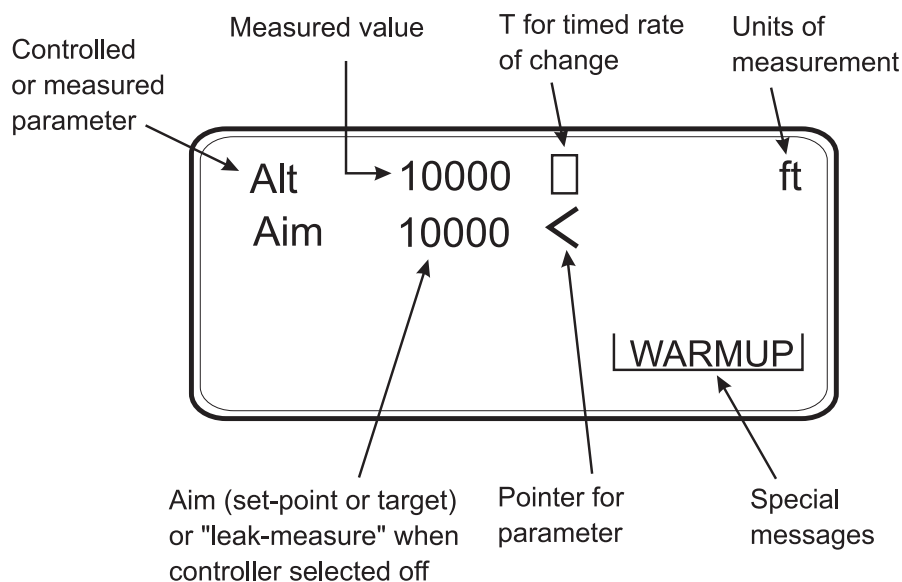
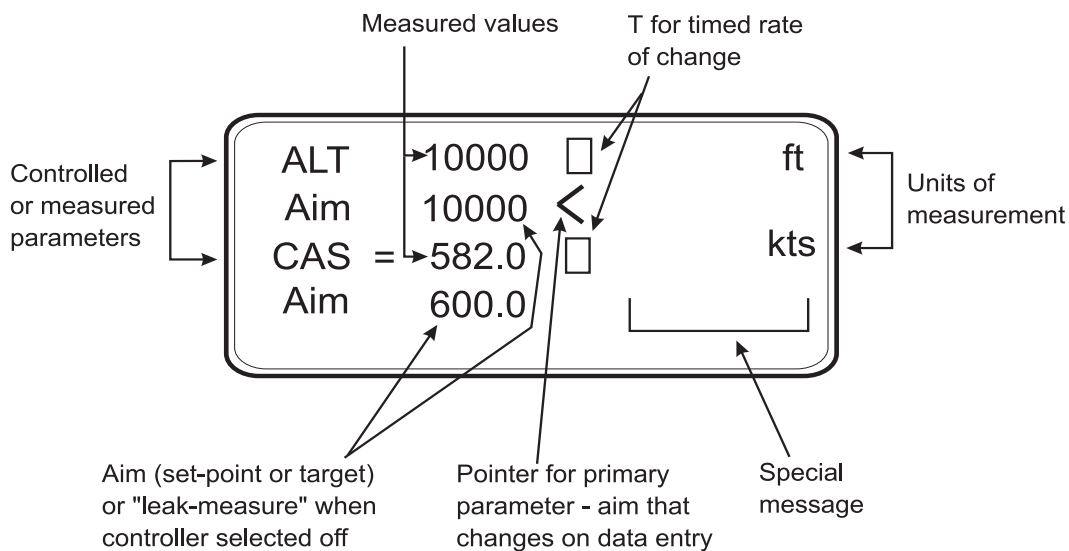
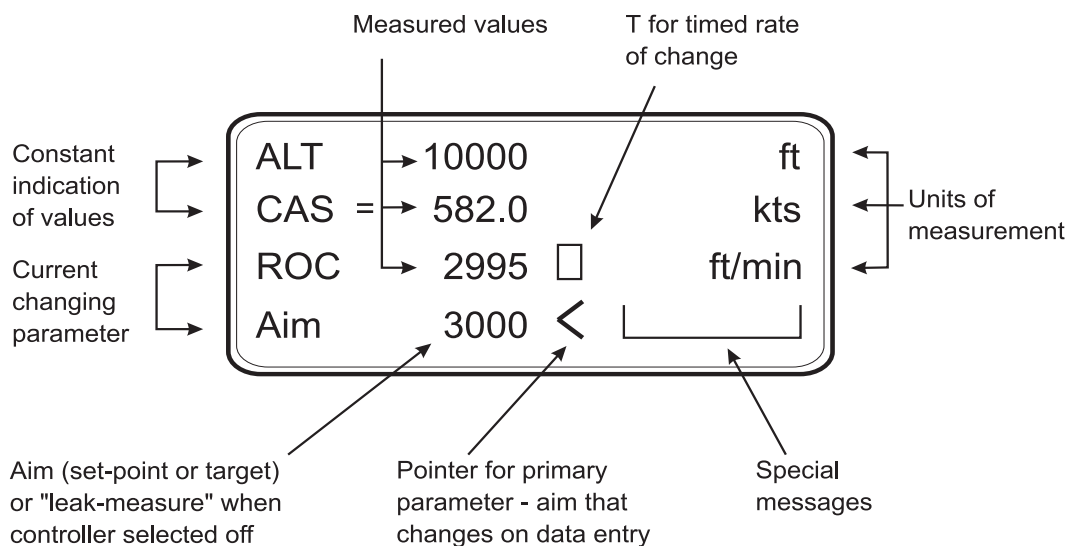

FIGURE 3-4 SINGLE DISPLAY
FIGURE 3-5 DUAL DISPLAY
FIGURE 3-6 TRIPLE DISPLAY
3.9 Displays (Fig 3.4, Fig 3.5 and Fig 3.6)